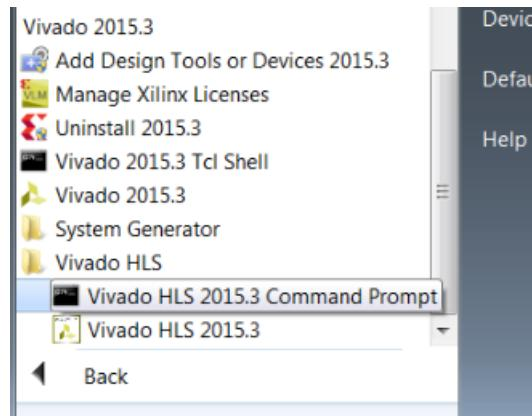

Figure 6-1: Vivado HLS Command Prompt
- On Windows click **Start > All Programs > Xilinx Design Tools > Vivado 2015.3 > Vivado HLS > Vivado HLS 2015.3 Command Prompt** (Figure 6-1).